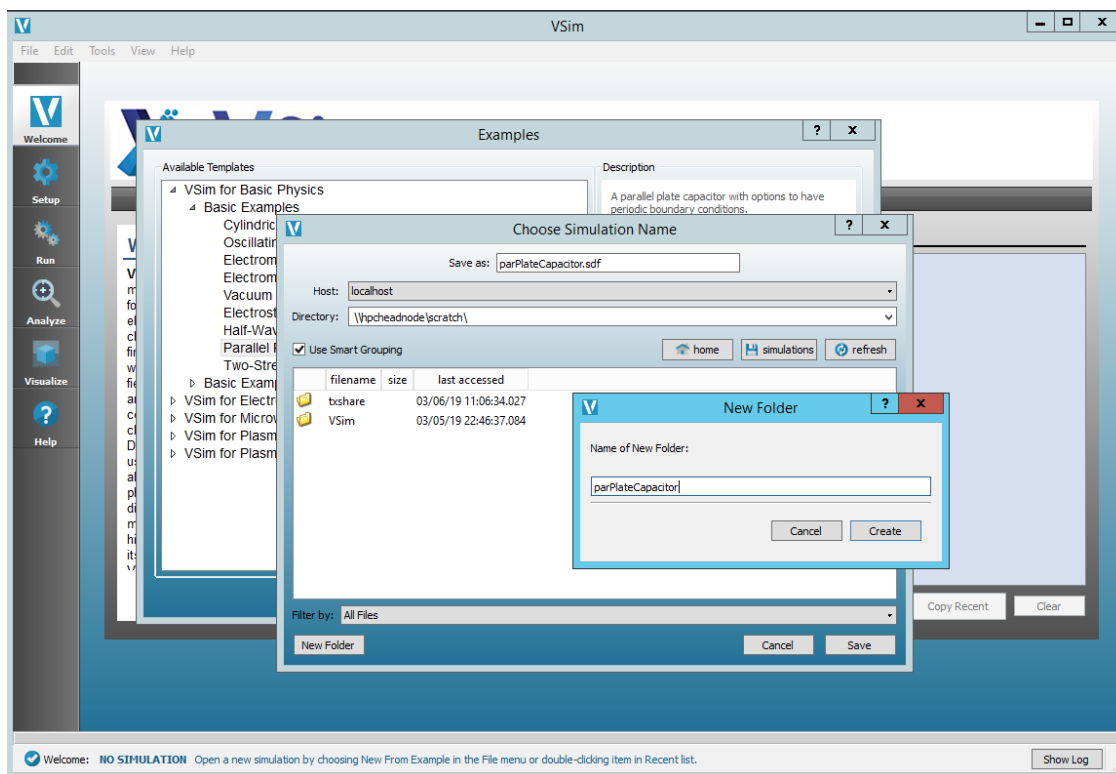

Fig. 8.13: Choose the name of the containing directory of your new simulation.
- Select the *New Folder* button and type in *parPlateCapacitor* for the name. See Fig. 8.13 below.